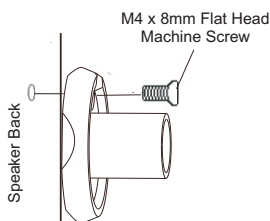

Figure 2
- Some speakers use the smaller M4 x 8mm hardware, which is inserted into the off-center hole on the mounting post (Figure 2).